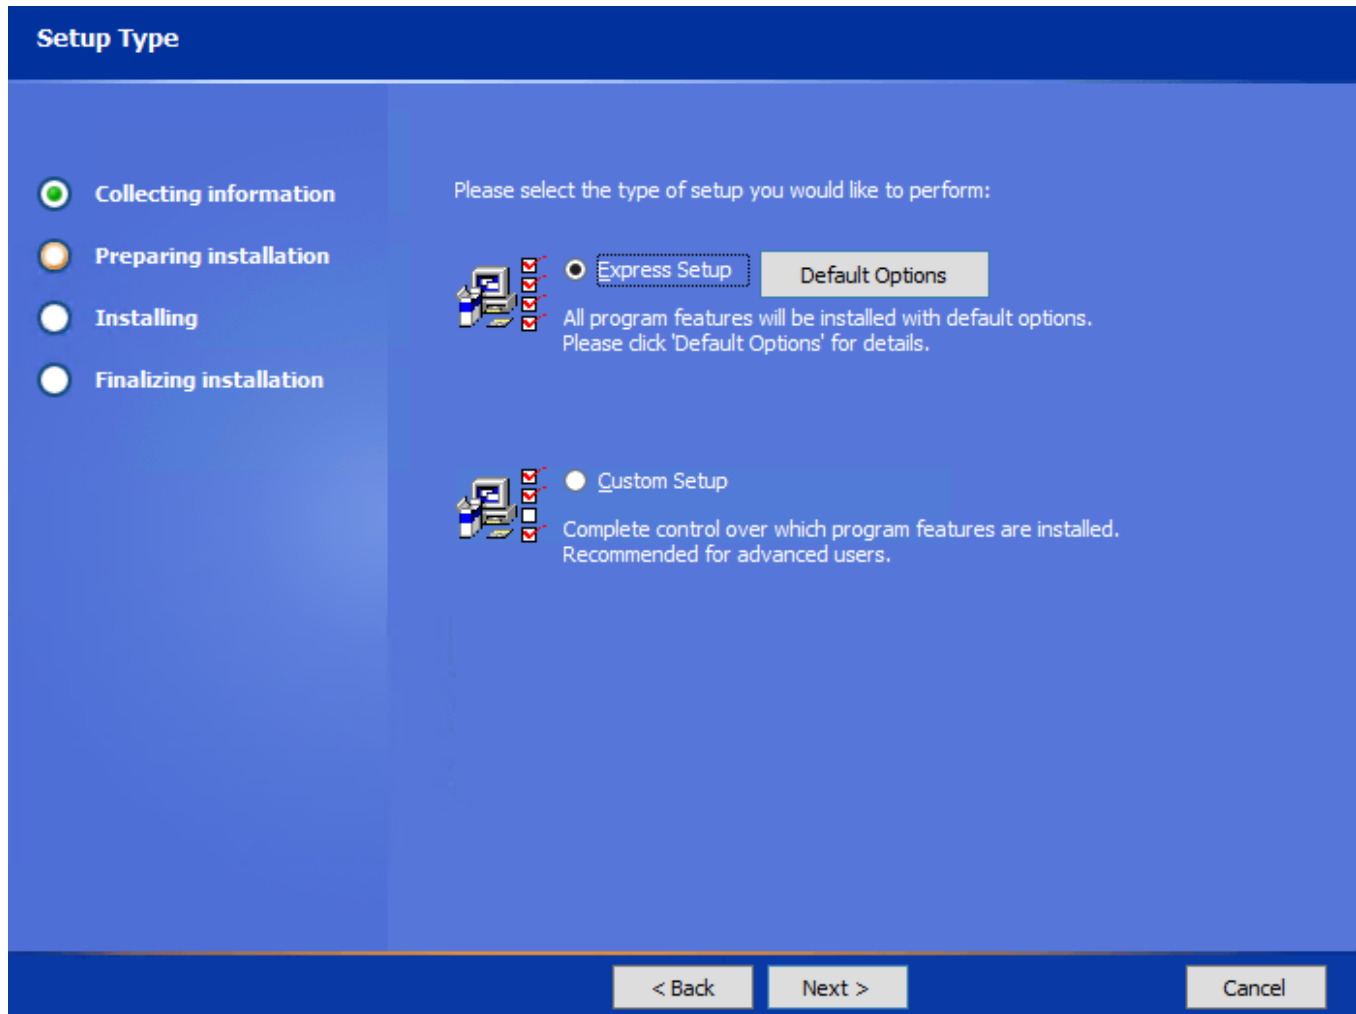

Figure 80 - Setup Type Screen
8. Click on the **Next** button. The **Setup Type** screen (Figure 80) appears.
10. Choosing Custom Setup and Click on the **Next** button. The Select Features Screen (Figure 80) appears.